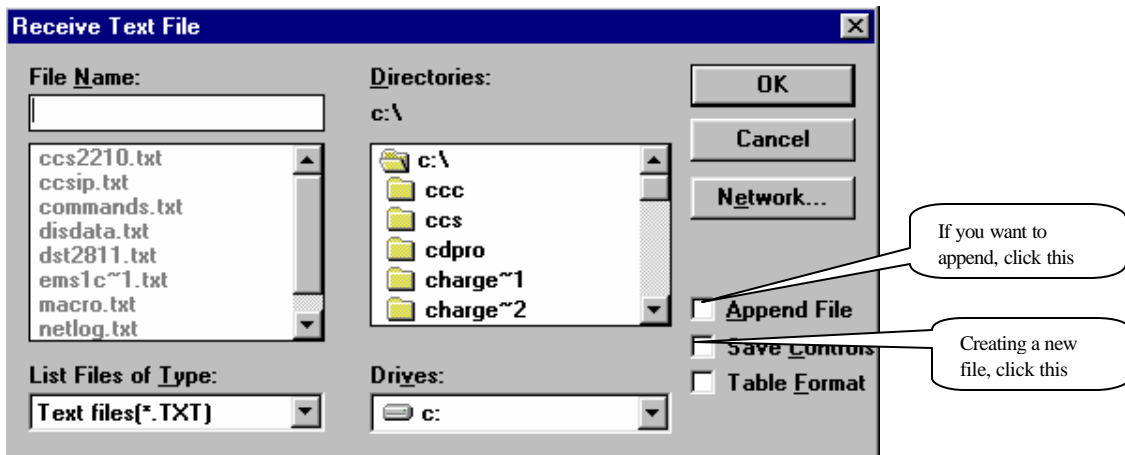

Fig4 Receive Text File Dialog Box
- If you want to save the file or append to the existing file, then select **Receive Text File** from **Transfers** menu. The **Receive Text File** dialog box is displayed as shown in Fig 4.